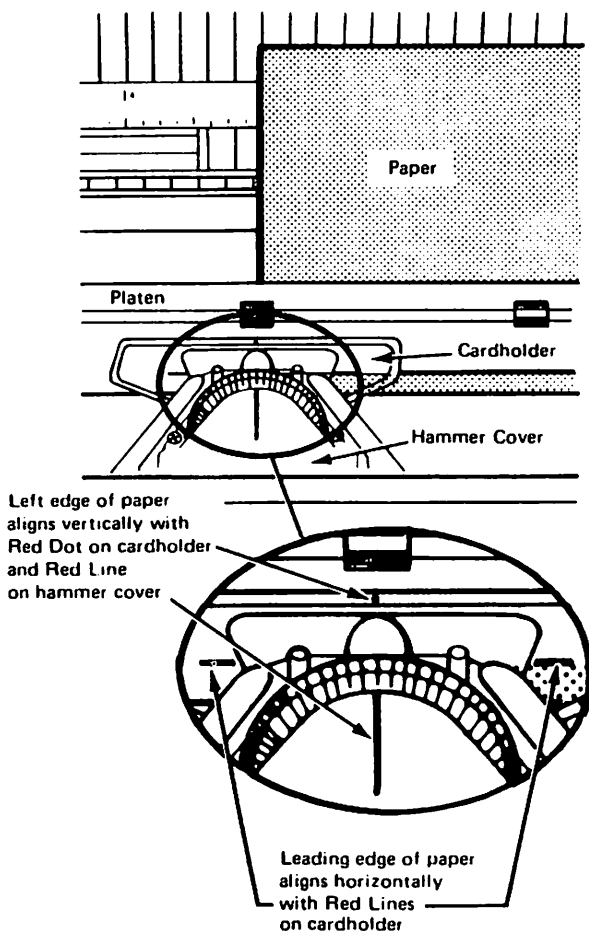

Figure 14 Paper alignment
2. Insert a sheet of paper in the printer with the left edge aligned with the small red dot on the cardholder and the line on the top of the print head (Figure 14). Paper should be inserted with the printing side away from you (or toward the rear of the printer).